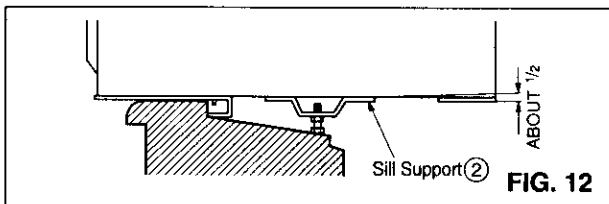

FIG. 12
- 11** The cabinet should be installed with a very slight tilt (about 1/2") downward toward the outside (FIG. 12).